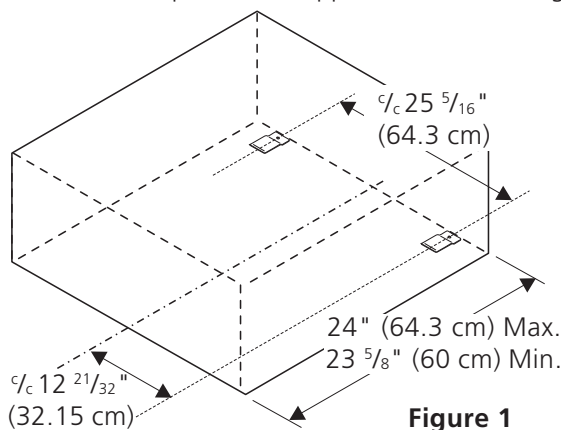

Figure 1
1. Locate the 2 anti-tip brackets supplied as shown on fig. 1.